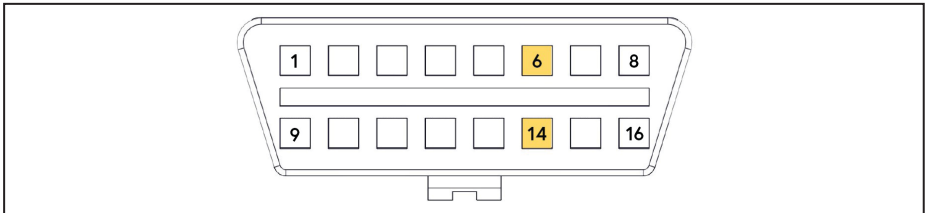

Figure 46 — OBD II connector
- Using the supplied Posi-Taps, splice (see page 40 for Posi-Tap instructions) (Figure 46):*